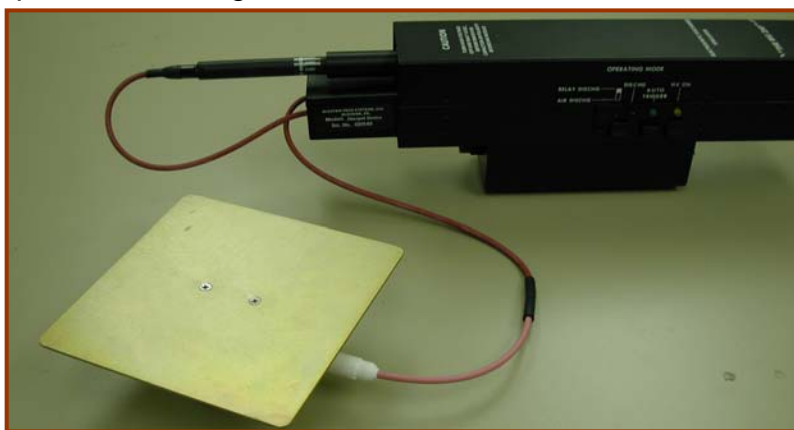

Figure 6.5-3: Field induced test set up
1. Insert the CDM module into the capacitor module connector and connect the ground lead into the module ground jack and the "0" Ohm discharge resistor jack as shown in the field induced test set up example shown in Figure 6.5-3.